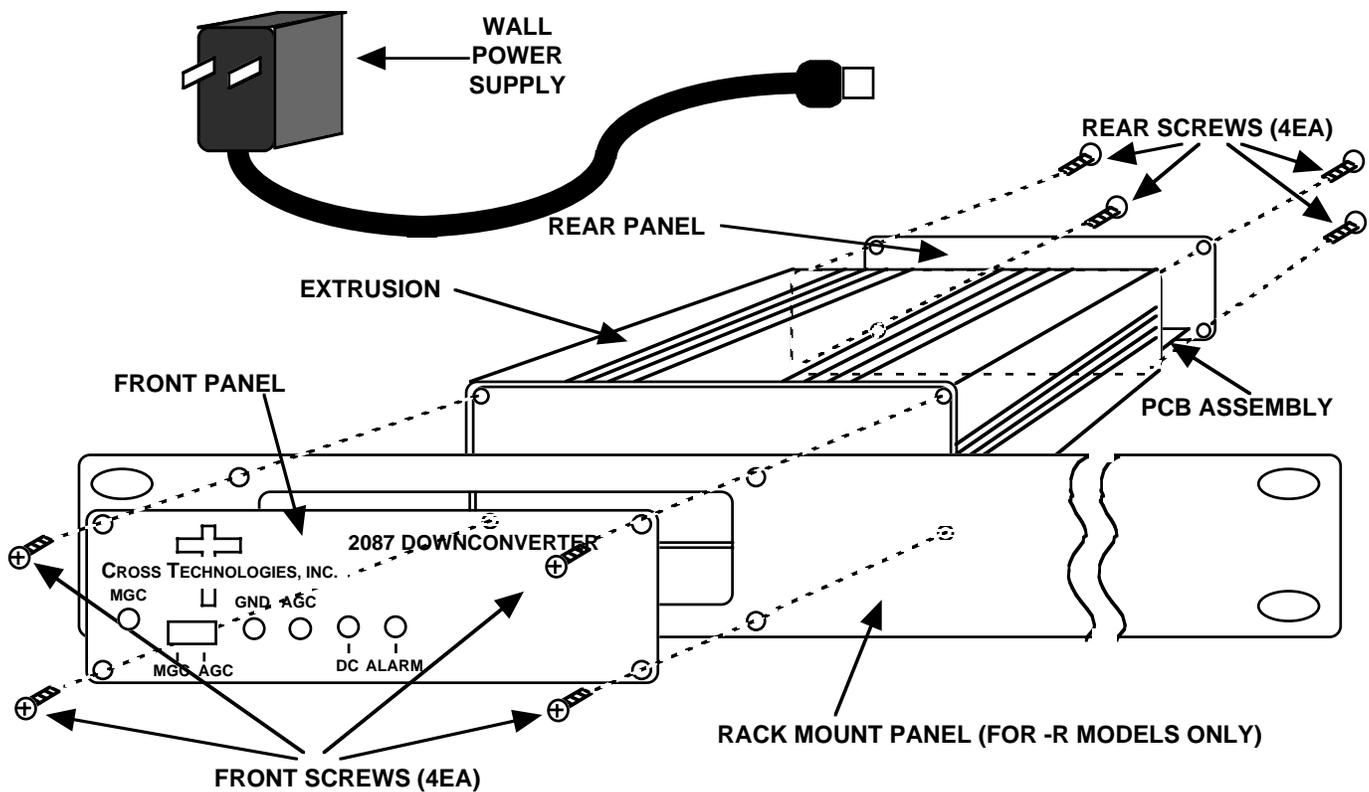

**FIGURE 2.2 2087 Rear Panel Inputs and Outputs**
### 2.3 Input / Output Signals - Figure 2.2 shows the input and output signals to the 2087.
- 1.) Connect the wall power supply to J2 and the wall power supply to 115 VAC, 60 Hz (Figure 2.2)
- 4.) Connect a -10dBm, maximum, signal to L-BAND IN, J1 (Figure 2.2) (-25 dBm max for option -A models).
- 5.) Connect the IF OUT, J3, to the desired device (Figure 2.2).